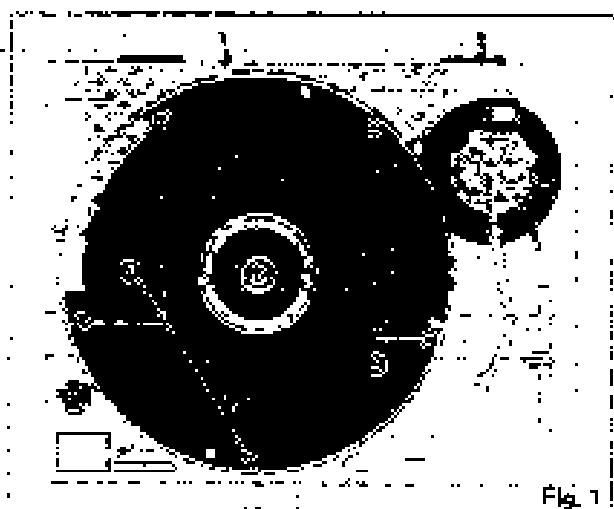

Fig. 1
3. Remove 6 screws ① of the panel cover as shown in Fig. 1.